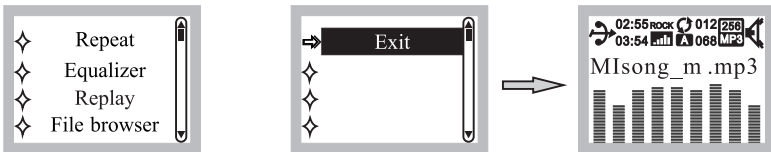

Fig. 15
- (J) Exit: In exit option, press PLAY/PAUSE  to return to the playback mode, Fig. 15.